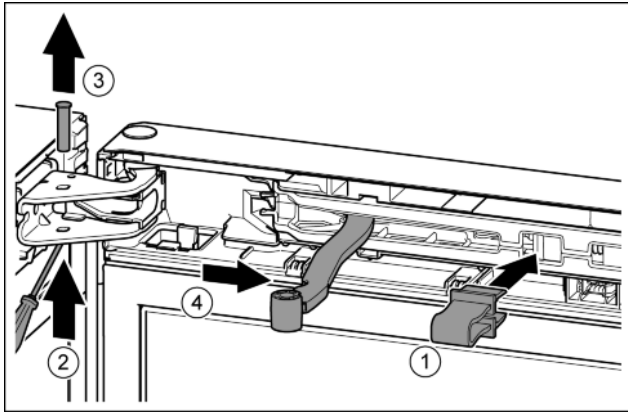

Fig. 12
- Engage the safety device in the opening. Fig. 12 (1)
- Undo the bolt with a T15 screwdriver. Fig. 12 (2)
- Remove the bolt in an upward direction. Fig. 12 (3)
- Turn the hinge in the direction of the door. Fig. 12 (4)